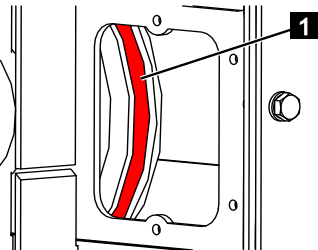

Fig. 257
8. While the telescopic boom is retracting, check the ropes (Fig.257/1) on the right side for damage and apply spray grease.